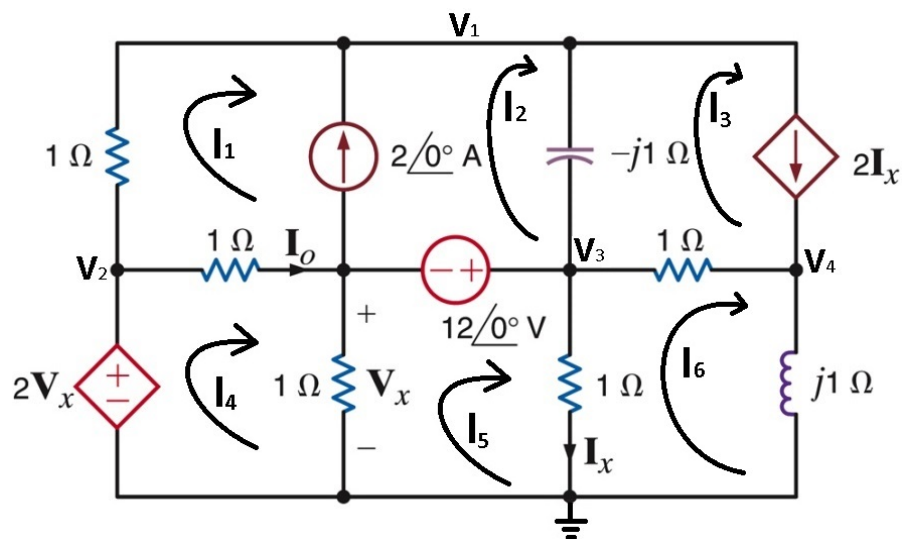

Figure 6: Circuit for Exercise 4
4) Write nodal equations for the circuit in Figure 6 (put in matrix notation). Solve your equations using MATLAB and calculate I_o . Repeat using mesh analysis. Include both your nodal and mesh equations, MATLAB code, MATLAB solutions (polar form), and any calculations required using your MATLAB solutions in your lab report.